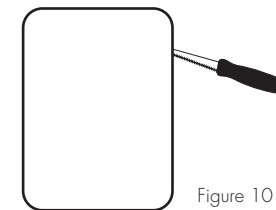

Figure 10
- Carefully cut the hole with the appropriate cutting tool for your wall or ceiling material. Start the hole by drilling a hole on the inside of the tracing (with the drill bit just inside the line). Use this hole to insert the saw or knife and begin cutting. [Figure 10]